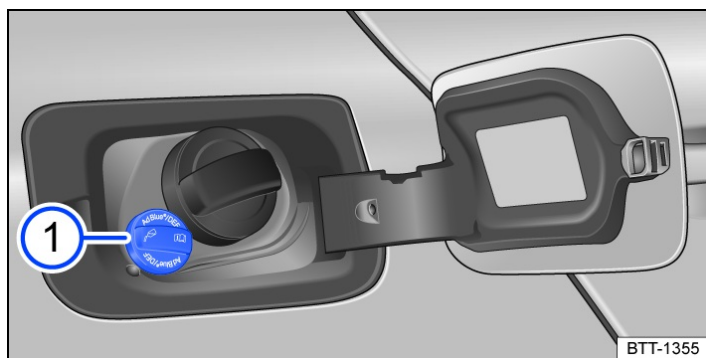
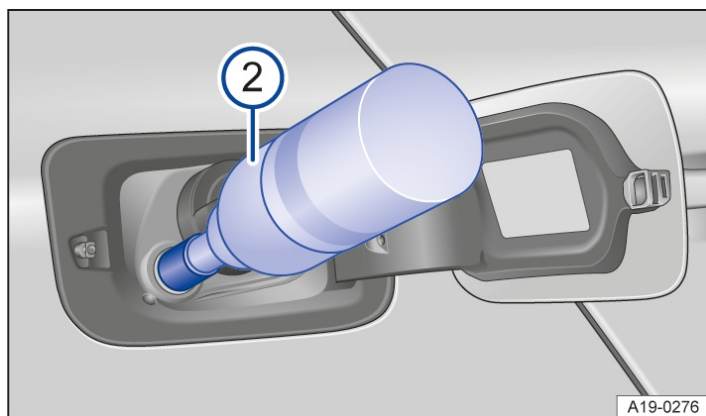
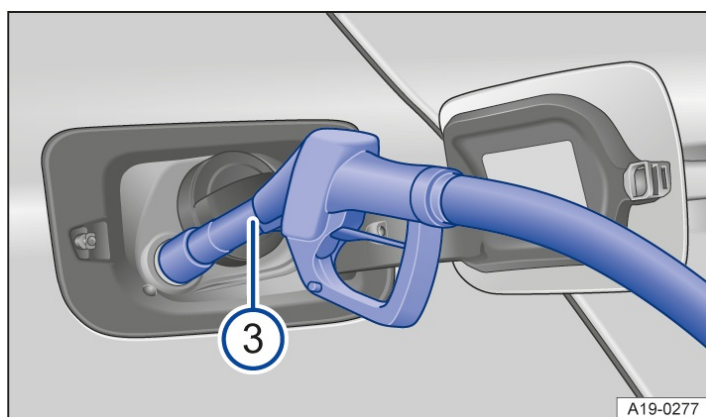

Fig. 1 Behind the tank flap: tank cap for AdBlue (illustration).
Fig. 2 Behind the tank flap: refilling AdBlue using the refill bottle (illustration).
Fig. 3 Behind the tank flap: refilling AdBlue using the nozzle (illustration).
Key to *Fig. 1*, *Fig. 2* and *Fig. 3*:
The AdBlue® filler neck is located behind the tank flap next to the tank filler neck for fuel → *Fig. 1*.
- Hold the AdBlue® filler nozzle so that the handle is facing down in order to ensure optimum filling → *Fig. 3*.
- The AdBlue® tank is full when the filler nozzle clicks off for the first time → ❶.